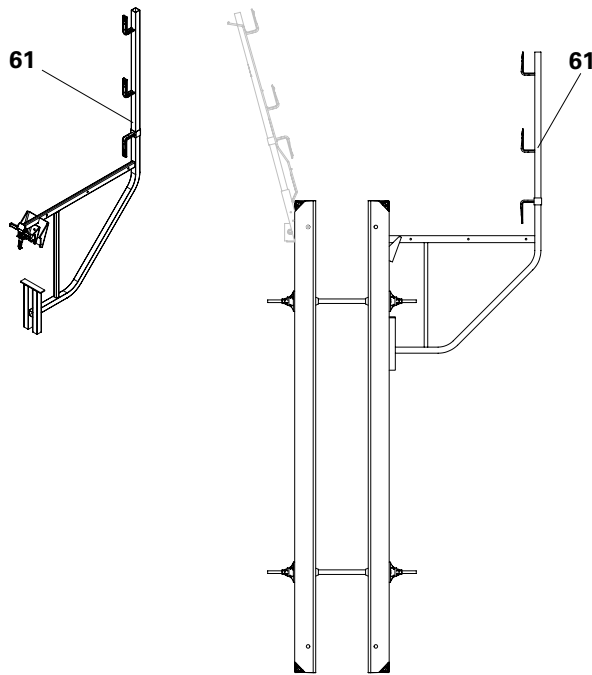

Fig. A13.20
1. Hook in Scaffold Brackets (61) in the connecting holes of the panels. (Fig. A13.20).